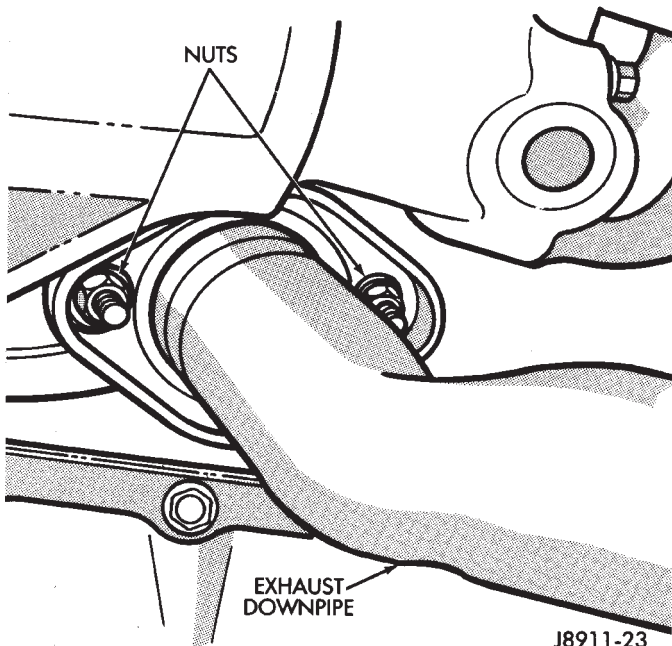

Fig. 4 Exhaust Pipe-to-Engine Exhaust Manifold Bolts and Nuts
(1) Raise and support the vehicle.
(2) Saturate the bolts and nuts with heat valve lubricant (Fig. 4). Allow 5 minutes for penetration.